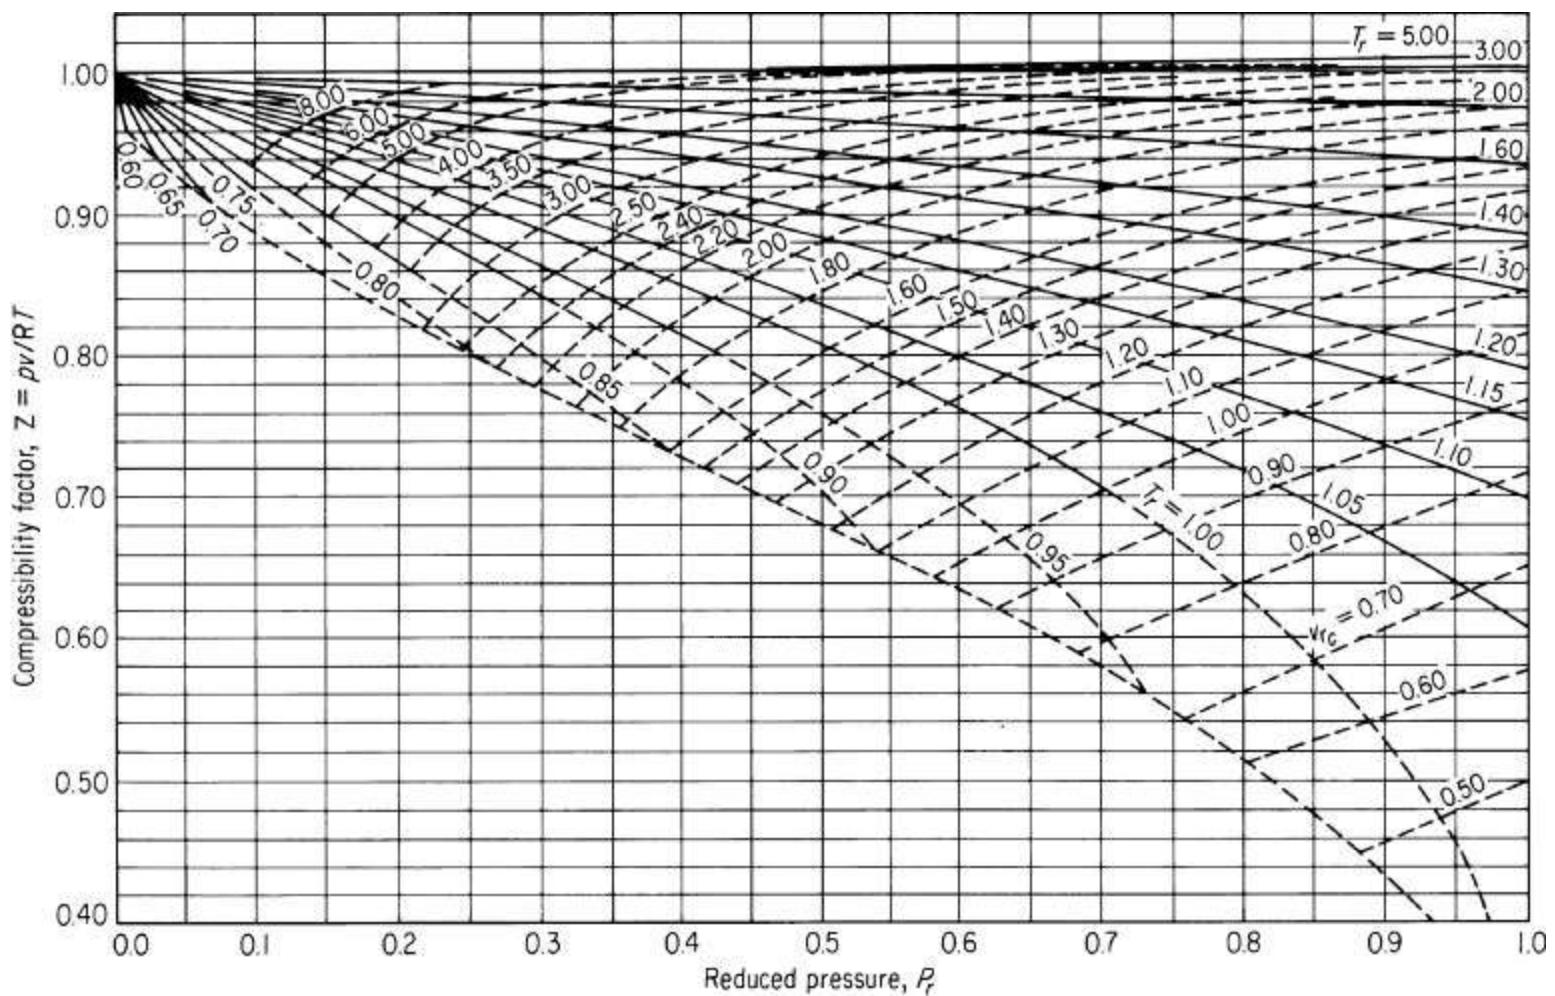
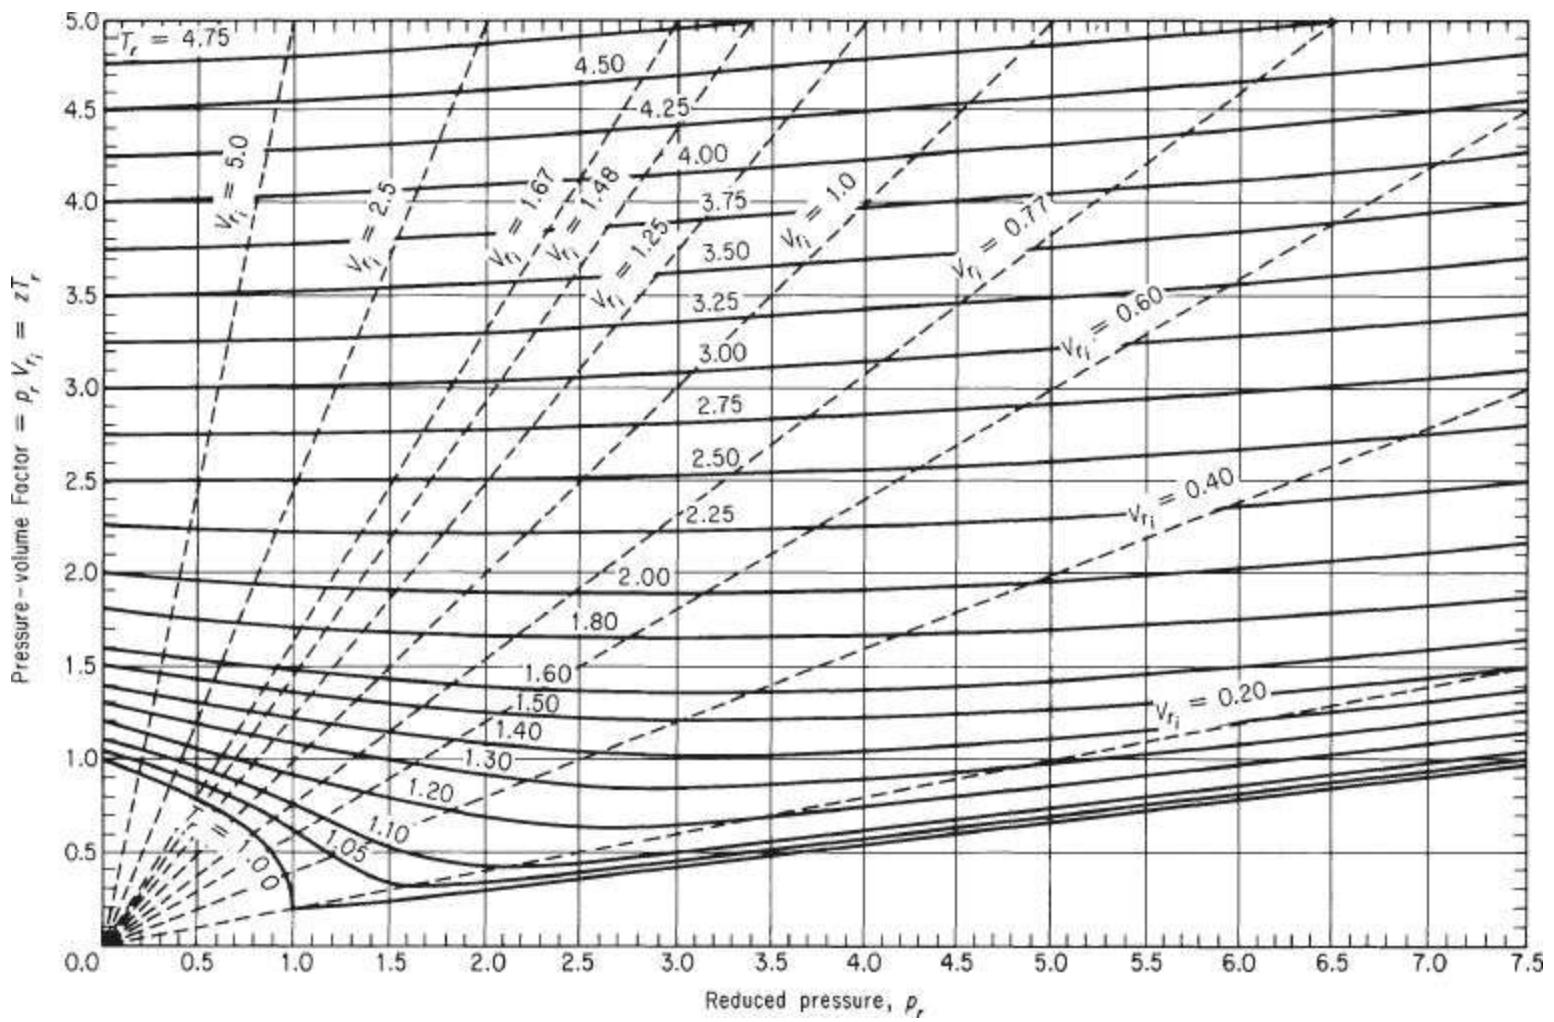

Figure 7.8a. Generalized compressibility chart for lower pressures showing z as a function of p_r , T_r , and \tilde{V}_{ri}
Figure 7.8b. Generalized compressibility chart for higher values of p_r
Figures 7.8a and 7.8b show two examples of the **generalized compressibility factor** charts prepared by Nelson and Obert.² These charts are based on data for 30 gases. Figure 7.8a represents z for 26 gases (excluding H₂, He, NH₃, and H₂O) with a maximum deviation of 1%, and H₂ and H₂O within a deviation of 1.5%. Figure 7.8b is for 9 gases and errors can be as high as 5%. Note that the vertical axis in Figure 7.8b is not z but zT_r . To use the charts for H₂ and He (only), make corrections to the actual constants to get **pseudocritical** constants as follows:
Then you can use Figures 7.8a and 7.8b for these two gases using the pseudocritical constants as replacements for their true values. You will find these two charts and additional charts for other ranges of p_r and T_r on the CD that accompanies this book in a format that can be expanded to get better accuracy.
1. What is in the blank region in Figure 7.8a below the curves for T_r and \hat{V}_{ri} ? The blank region corresponds to a different phase—a liquid.
From the Nelson and Obert (N&O) chart, Figure 7.8a, you can read $z \approx 0.855$. The value may be somewhat in error because ammonia was not one of the gases included in the preparation of the figure. Rather than calculating the specific volume directly, let's calculate it from the ratio of $pV_{\text{real}} = z_{\text{real}} nRT$ to $pV_{\text{ideal}} = z_{\text{ideal}} nRT$, the net result of which is
From the Nelson and Obert chart (Figure 7.8b) you can read